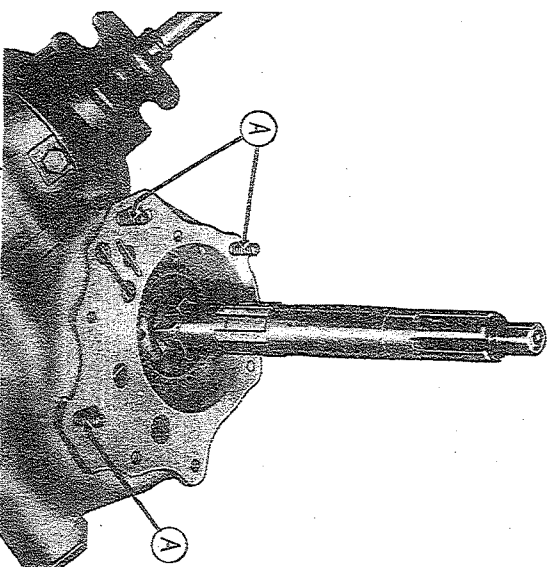

Fig. 21. Gearbox showing studs for adaptor plate
4. Screw the three studs A into the holes shown in the rear face of the gearbox and lay the paper joint washer in position (Fig. 21).